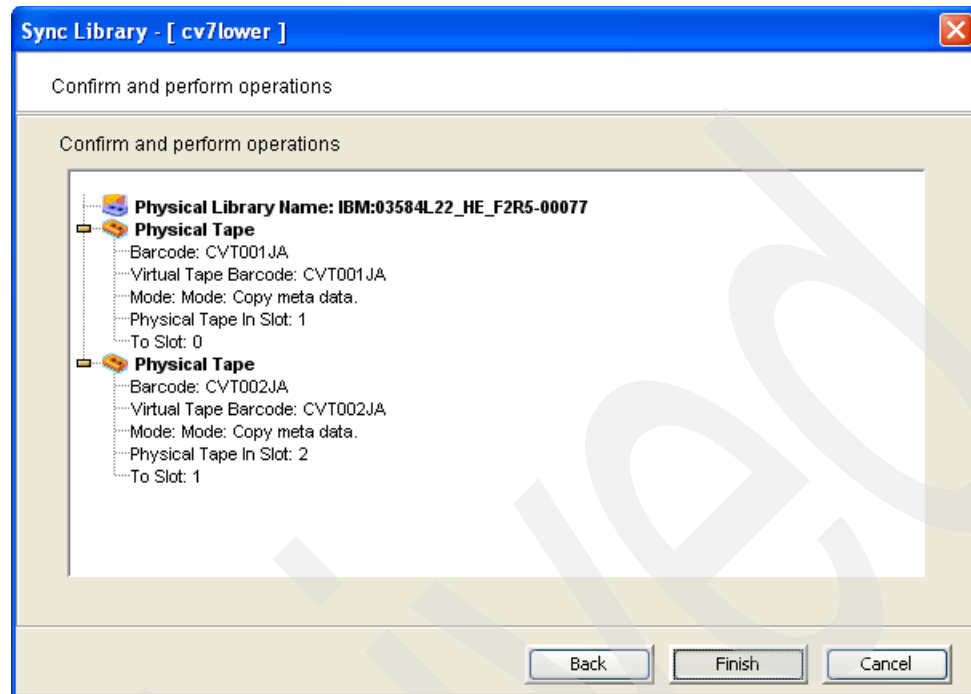

Figure 12-48 Tape cache creation confirmation window
5. Confirm all information (Figure 12-48) and click **Finish**. If advanced tape creation is enabled, specify how the cache should be created.